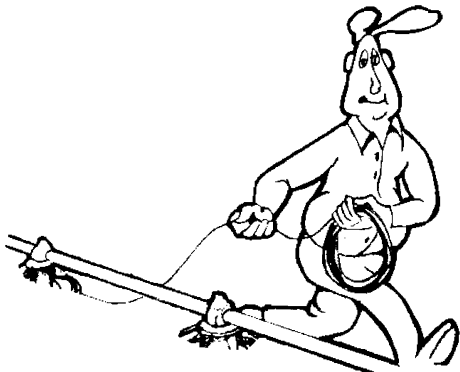

Figure 29. Unrolling the Cable
- 1. Unroll the bulk anti-roost cable. Note: If the cable is unrolled as shown in Figure 29, taking 5 loops of the coil with one hand, then changing hands to remove 5 loops as it is unrolled, it will lie flat during installation.